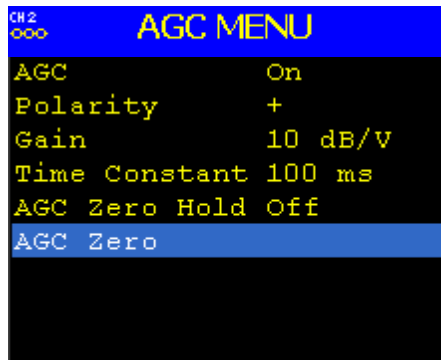

Figure 52: AGC Menu, AGC Zero Highlighted
3. Activate AGC Zero under this condition. (Scroll to AGC Zero, and then press the Enter key on the front panel, as shown in Figure 52.)